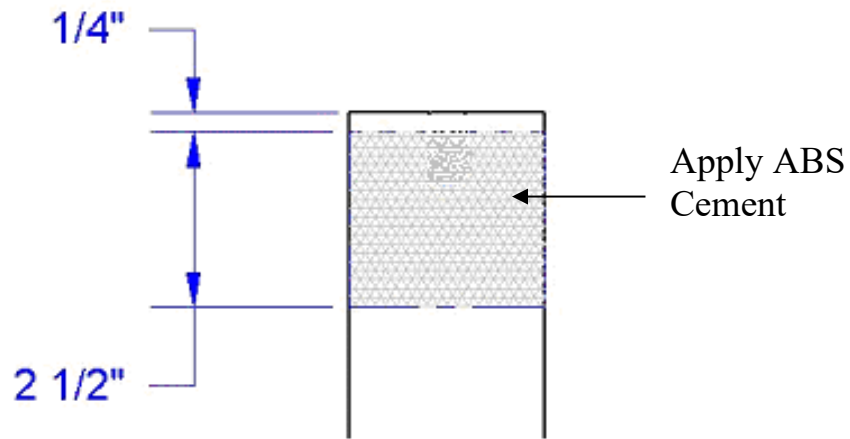

Figure 7 - Casing Preparation
| FIGURE 7 - CASING PREPARATION | 10 |
- 2) Apply ABS 771 Cement to the inclinometer casing (Figure 7). The repair coupler will slide over top and the alignment tool will be used.